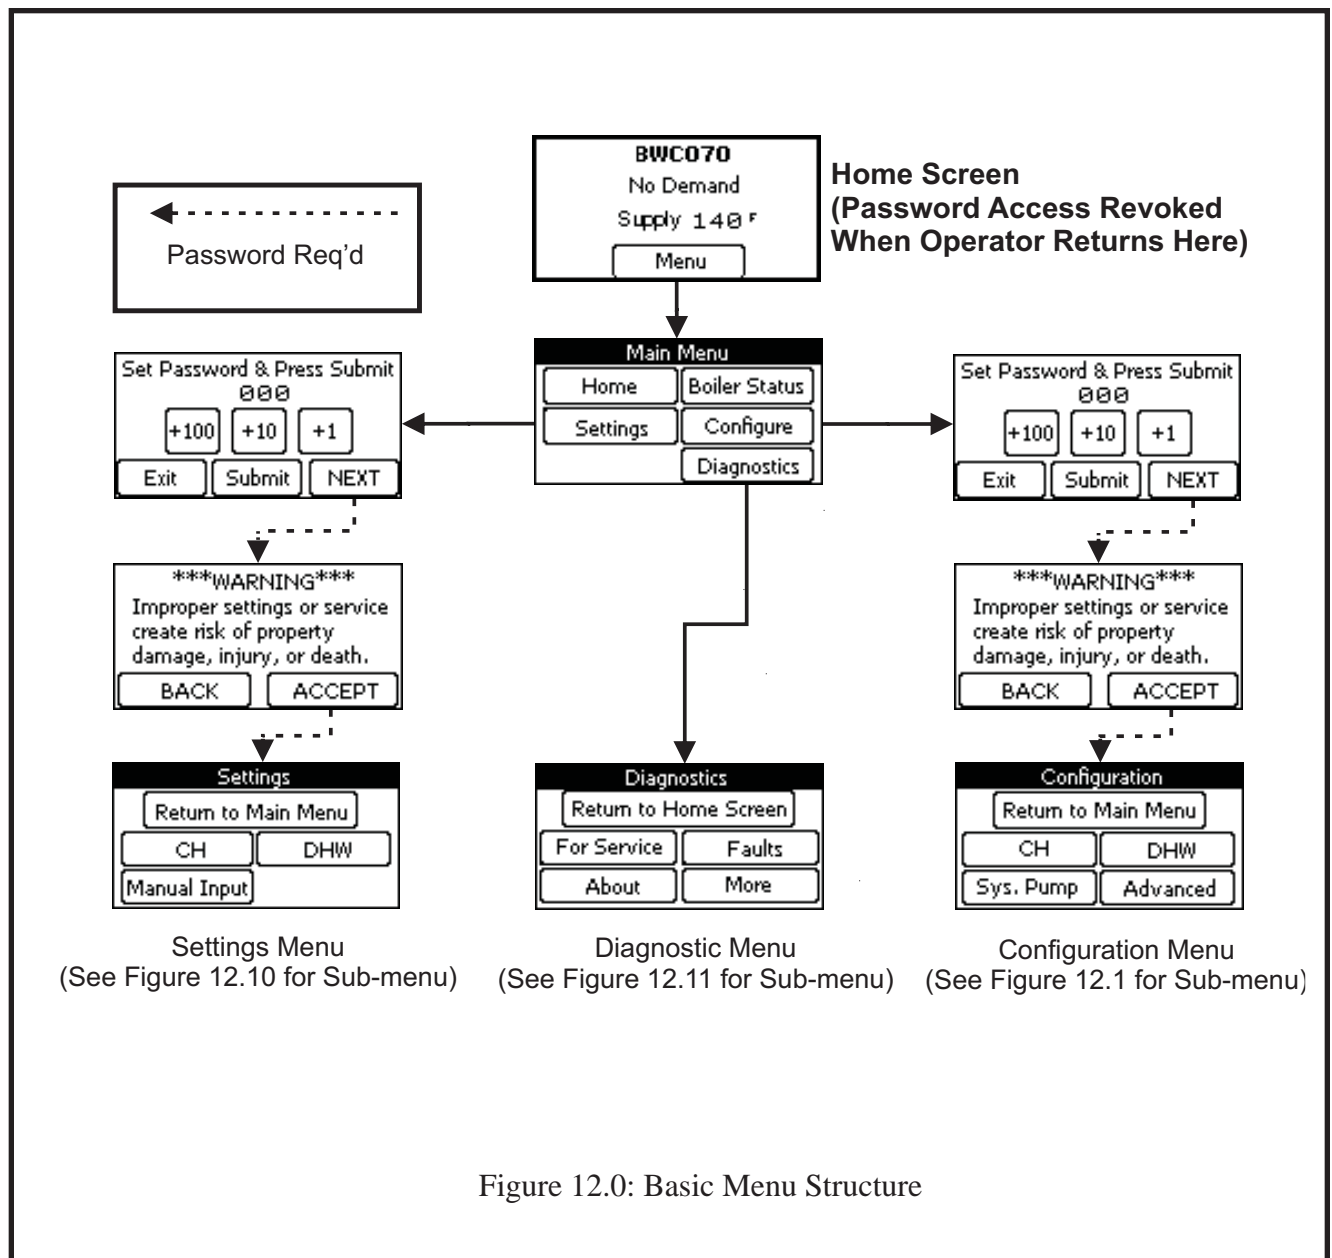

Figure 12.0: Basic Menu Structure
A map of the basic menu structure is shown in Figure 12.0. In order to prevent unauthorized or accidental adjustments, access to menus, which change settings and boiler operation, is password protected. In general, if a menu is not touched for 255 seconds, the display backs up to the previous menu. Once the Home Screen is returned to, the password must be reentered in order to regain access to protected menus (this feature prevents the boiler from being permanently left in operation without password protection).
- 1) From the Home Screen (shown in Figure 12.0) , press “MENU” to enter the Main Menu: